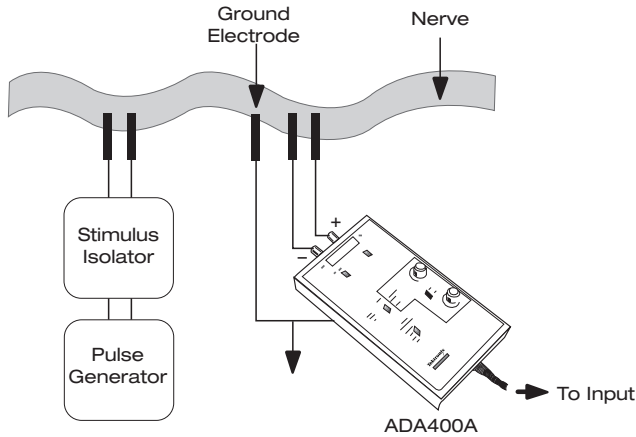

Figure 8. Differential Measurements with Floating Input Signals.
An extension of this principle can be applied when making stimulus-response measurements on an excised nerve of a biological specimen (see Figure 8). A grounded electrode could be placed across the nerve between the stimulus isolator and the recording electrodes to effectively bypass surface currents to ground. The recording electrodes will then see the conducted action potential with very little stimulus artifact.
**Electromagnetic Induction.** Any cable, shielded or otherwise, can pick up induced currents if they pass close to power transformers, line cords, or other AC current carrying leads. Care has to be taken to route “single-ended” signal leads away from such sources, and paired differential leads are often twisted together to cancel out induced currents. The ADA400A Differential Pre-amplifier, however, places the differential amplifier circuitry at the probe end, where it is as close as possible to the specimen being tested (see Figure 8). This virtually eliminates problems from induced currents. The signal of interest is amplified before it can be degraded by electromagnetic induction.